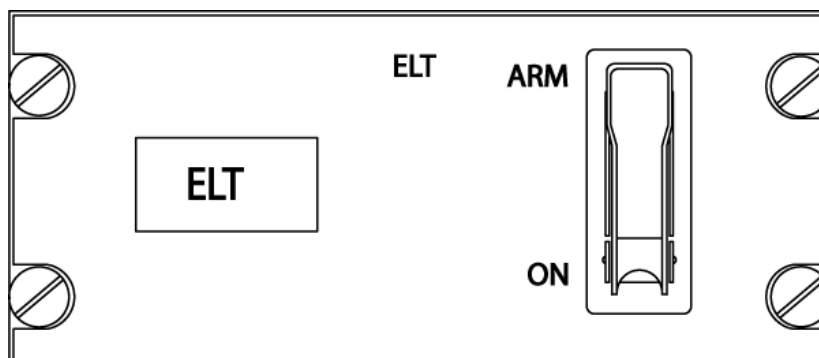

Figure 2 Remote Switch Panel Assembly Front View
- 2) The cockpit-mounted Control Panel G737 (remote switch panel assembly) is a backlit panel comprised of an ELT status indicator light and a control switch, which allows an operator to manually activate the ELT for testing and reset (i.e., deactivate) the ELT. See Figure 2 Remote Switch Panel Assembly Front View.